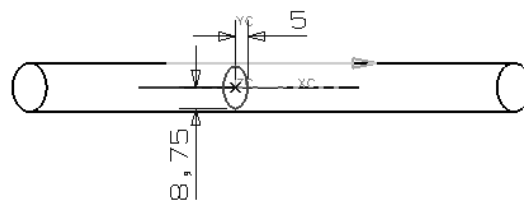

Figure 11-90 The section curve drawn for creating the sweep surface
- Select the newly created plane and draw the ellipse (section curve), as shown in Figure 11-90. Exit the **Sketcher** environment.